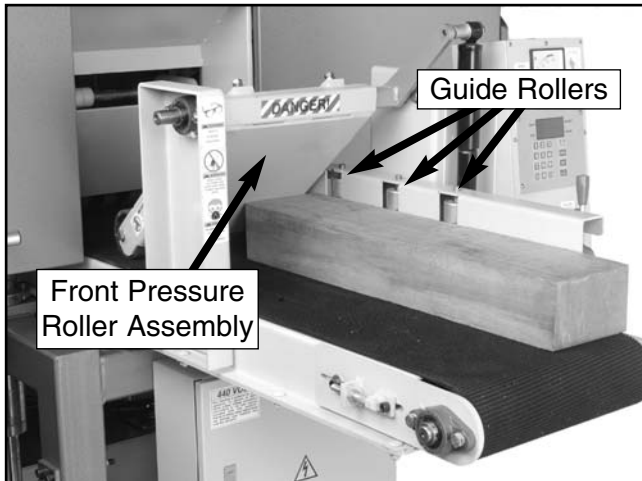

Figure 26. Feeding the workpiece through the bandsaw.
9. Begin feeding the workpiece under the front pressure rollers with the jointed edge against the guide rollers, as shown in **Figure 26**.